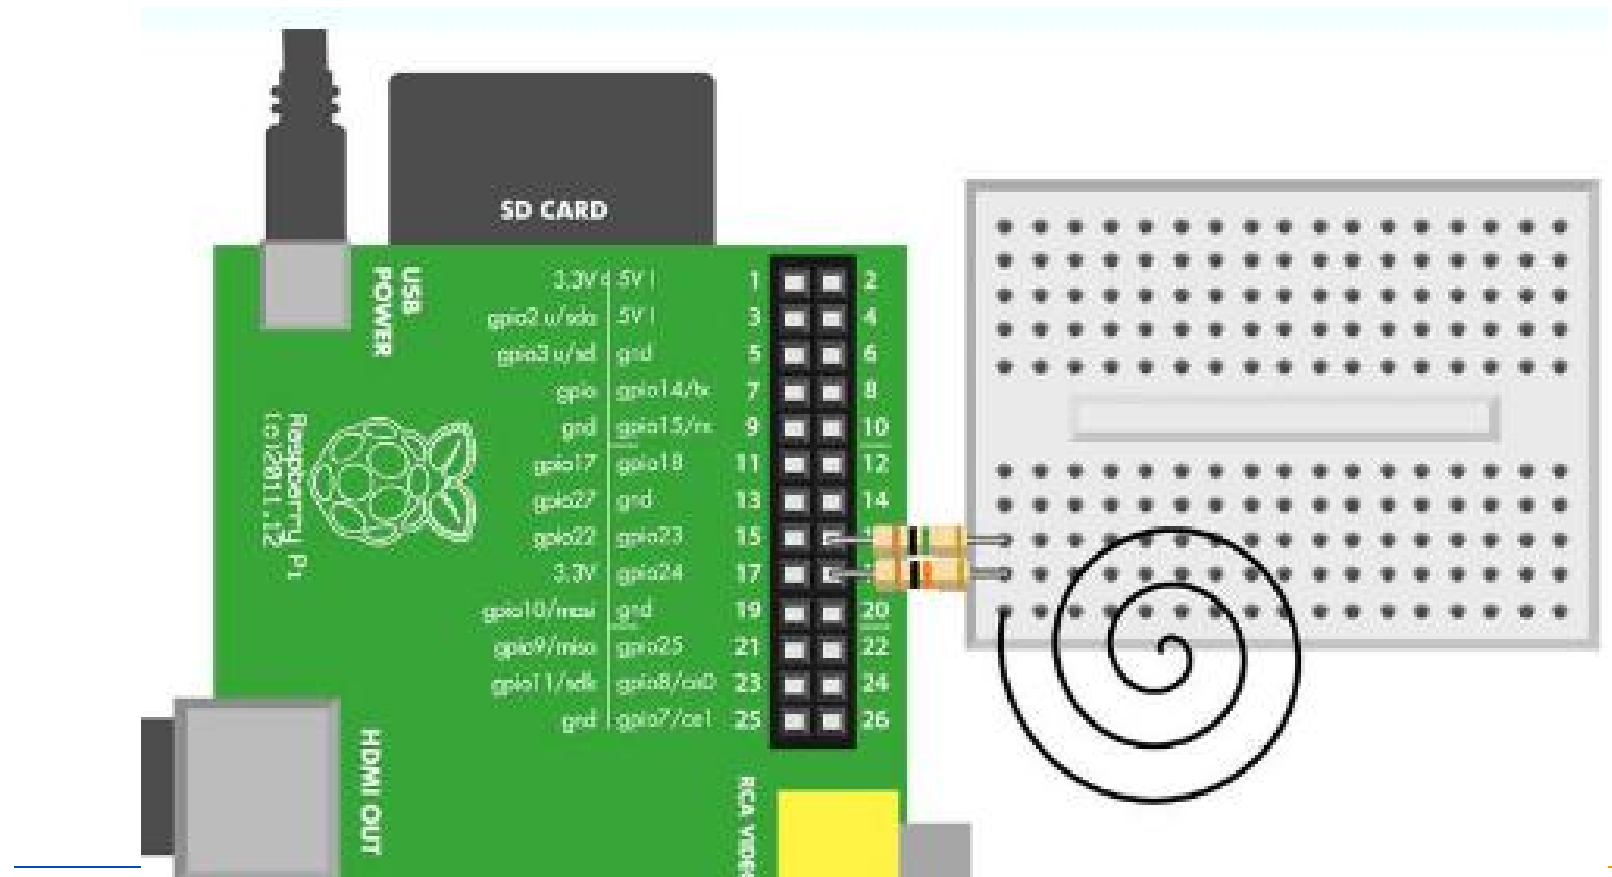

Figure 5-21. Capacity sensor connection for Raspberry Pi
- Figure 5-21 shows the wiring diagram for Raspberry Pi. Wire it up as shown, and then run the code shown in Example 5-12.